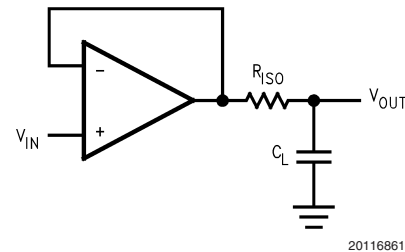
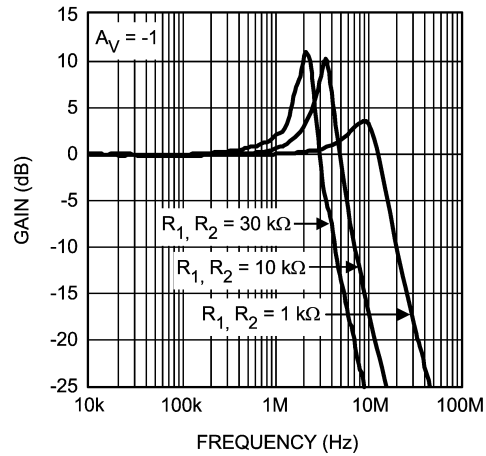

FIGURE 1.
FIGURE 3.
The LMV791 can directly drive 120 pF in unity-gain without oscillation. The unity-gain follower is the most sensitive configuration to capacitive loading. Direct capacitive loading reduces the phase margin of amplifiers. The combination of the amplifier's output impedance and the capacitive load induces phase lag. This results in either an underdamped pulse response or oscillation. To drive a heavier capacitive load, the circuit in *Figure 1* can be used.
In *Figure 1*, the isolation resistor  $R_{\text{ISO}}$  and the load capacitor  $C_L$  form a pole to increase stability by adding more phase margin to the overall system. The desired performance depends on the value of  $R_{\text{ISO}}$ . The bigger the  $R_{\text{ISO}}$  resistor value, the more stable  $V_{\text{OUT}}$  will be. Increased  $R_{\text{ISO}}$  would, however, result in a reduced output swing and short circuit current.
Equation (2) shows that as the values of  $R_1$  and  $R_2$  are increased, the magnitude of the poles, and hence the bandwidth of the amplifier, is reduced. This theory is verified by using different values of  $R_1$  and  $R_2$  in the circuit shown in Figure 1 and by comparing their frequency responses. In Figure 3 the frequency responses for three different values of  $R_1$  and  $R_2$  are shown. When both  $R_1$  and  $R_2$  are 1 k $\Omega$ , the response is flattest and widest; whereas, it narrows and peaks significantly when both their values are changed to 10 k $\Omega$  or 30 k $\Omega$ . So it is advisable to use lower values of  $R_1$  and  $R_2$  to obtain a wider and flatter response. Lower resistances also help in high sensitivity circuits since they add less noise.